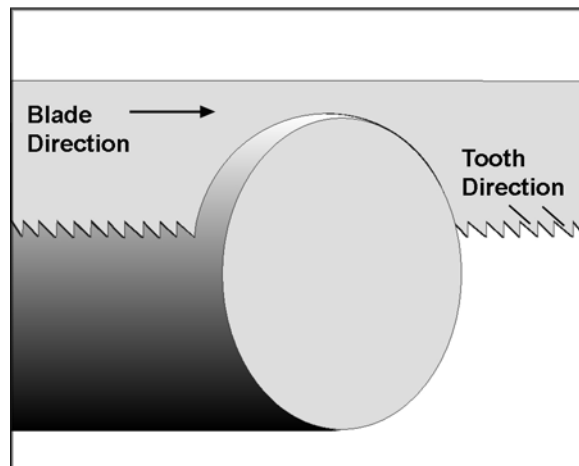

Figure 13
8. Install the new blade through the guides and around the wheels, making sure the teeth are pointing in the proper cutting direction. See Figure 13.